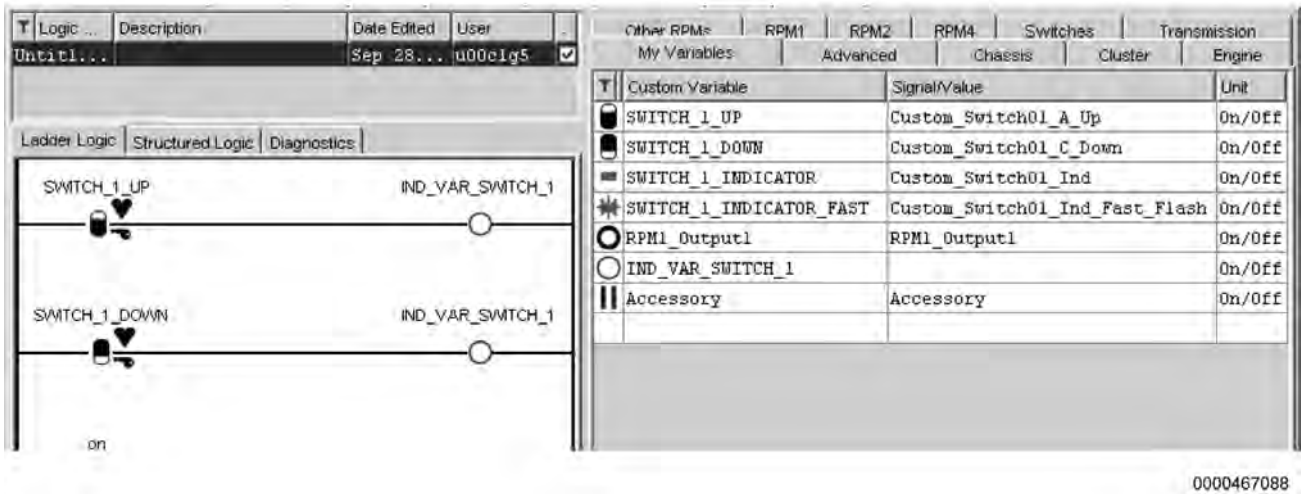

Figure 45 Renaming the Independent Variables
11. Type a descriptive name and press Enter. In Figure 45, variable A was renamed IND_VAR_SWITCH_1.